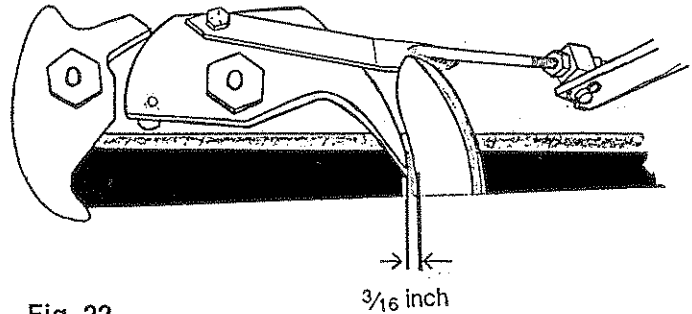

Fig. 22
1. Use the manual operator pendant to advance the knotter until the point of the twine finger is just passing the inside edge of the needle. The point of the twine finger should clear the needle $3/16$ ", see Fig. 22.